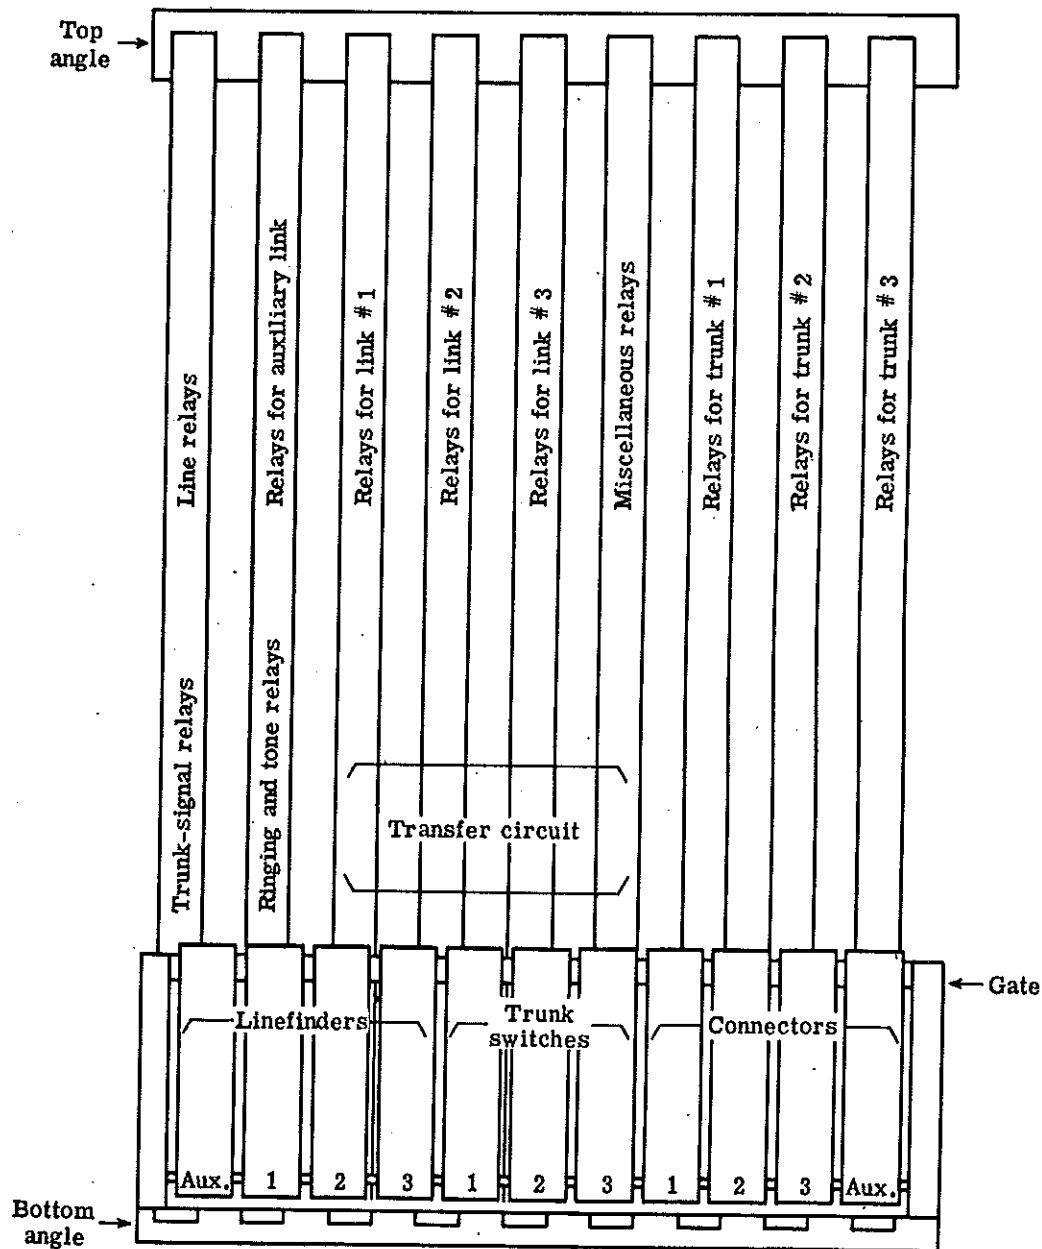

Figure 2. Switchboard, front internal view.
**2.1 Switchboard**—The switchboard is housed in a steel cabinet 40½" high, 27¾" wide, and 13" deep. The cabinet and contents weigh 260 pounds (shipping weight, 300 pounds). Front and rear doors are provided on the cabinet. As illustrated in Figures 1, 2, and 3, all components or fixtures holding these components are attached to angle bars which are fastened across the top and bottom of the cabinet. All rotary stepping switches are fastened on a rectangular steel framework ("gate") at the base of the mounting framework. This gate is pivoted at its bottom so that the entire frame may be tilted forward, exposing the banks of the rotary switches. The various relay groups are assembled on relay strips and fastened vertically in the cabinet across the angle bars. Locations of the various relay groups are indicated in Figure 2.